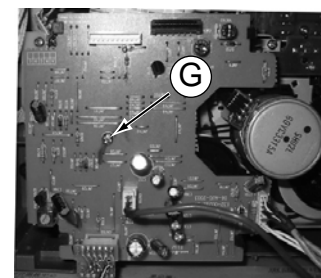

Figure 8
- 4) Loosen 1 screws ' G ' to remove the Tape Board figure 8.